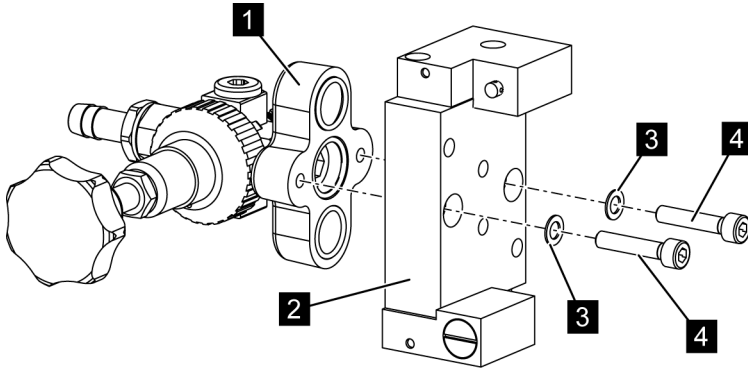

Fig. 17: Housing
- 12.** ➤ Screw the housing (Fig. 17/2) to the valve adapter (Fig. 17/1) with the screws (Fig. 17/4) and locking washers (Fig. 17/3).